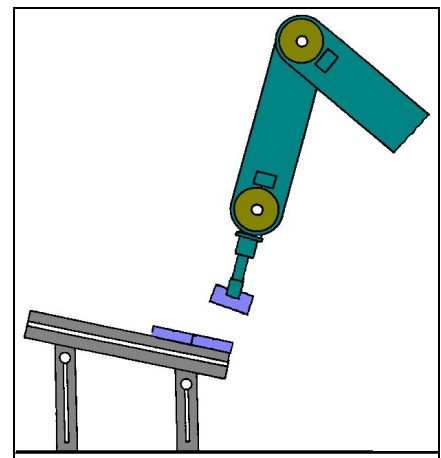

Figure 5-10: position 12
- 6 Using the Go Linear command in the Teach Positions (Expanded) dialog box, send the robot to position #12. It should move to the location shown in Figure 5-10.